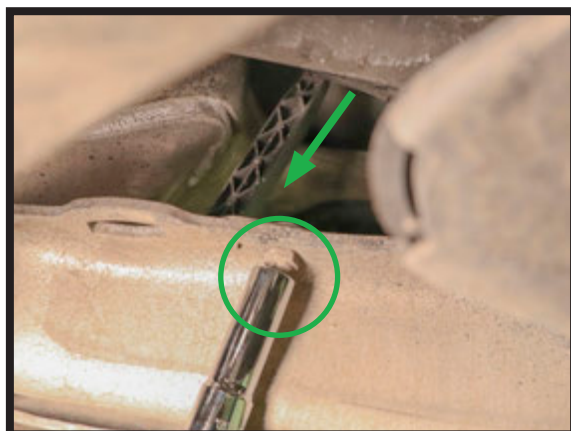

FIGURE 37
10. REINSTALL THE RIDE HEIGHT SENSOR IN THE EXACT ORIENTATION AS REMOVED. (FIGURE 37)